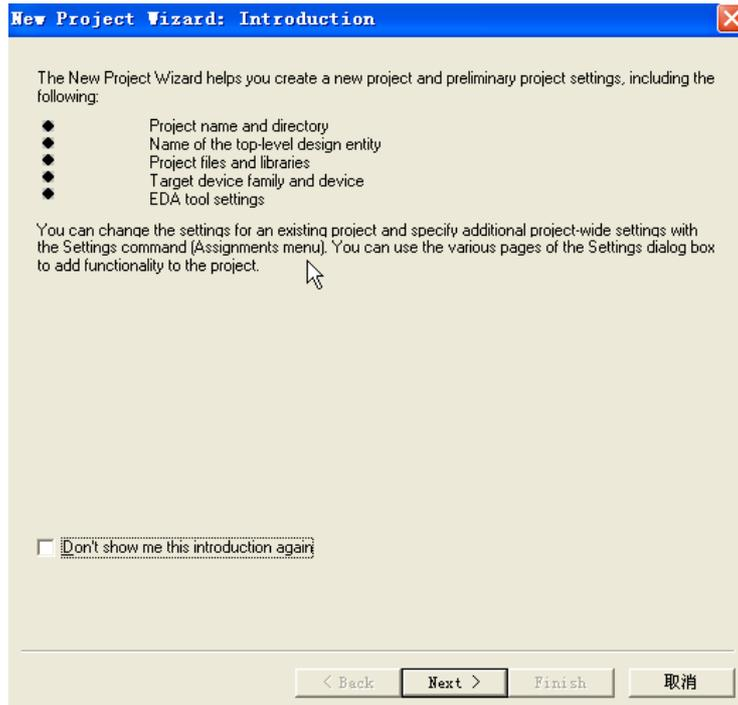
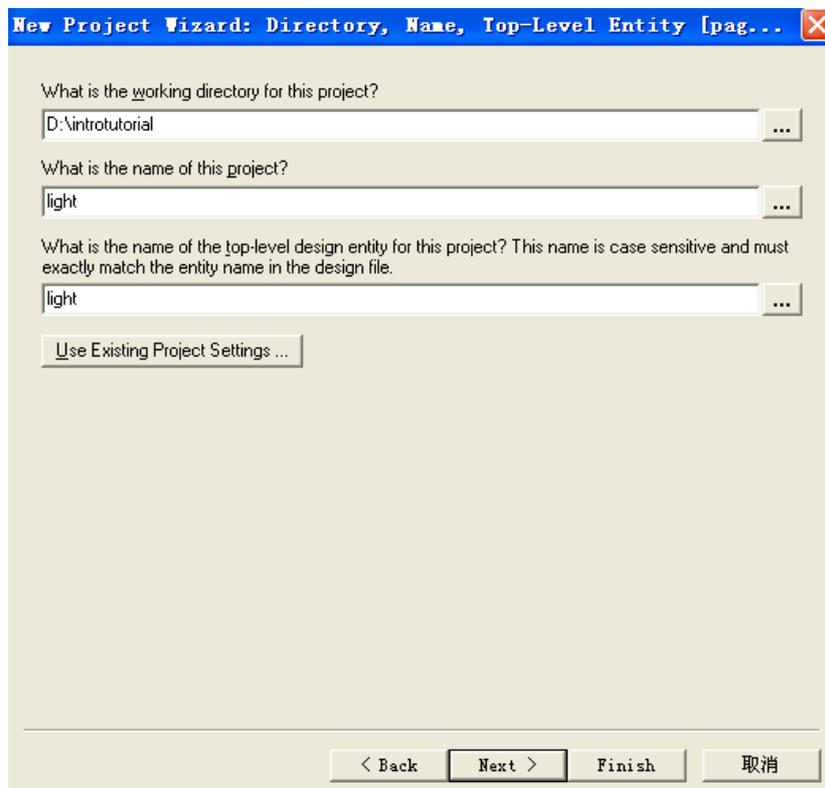
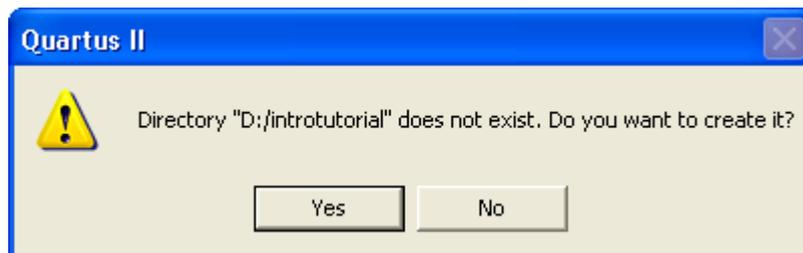
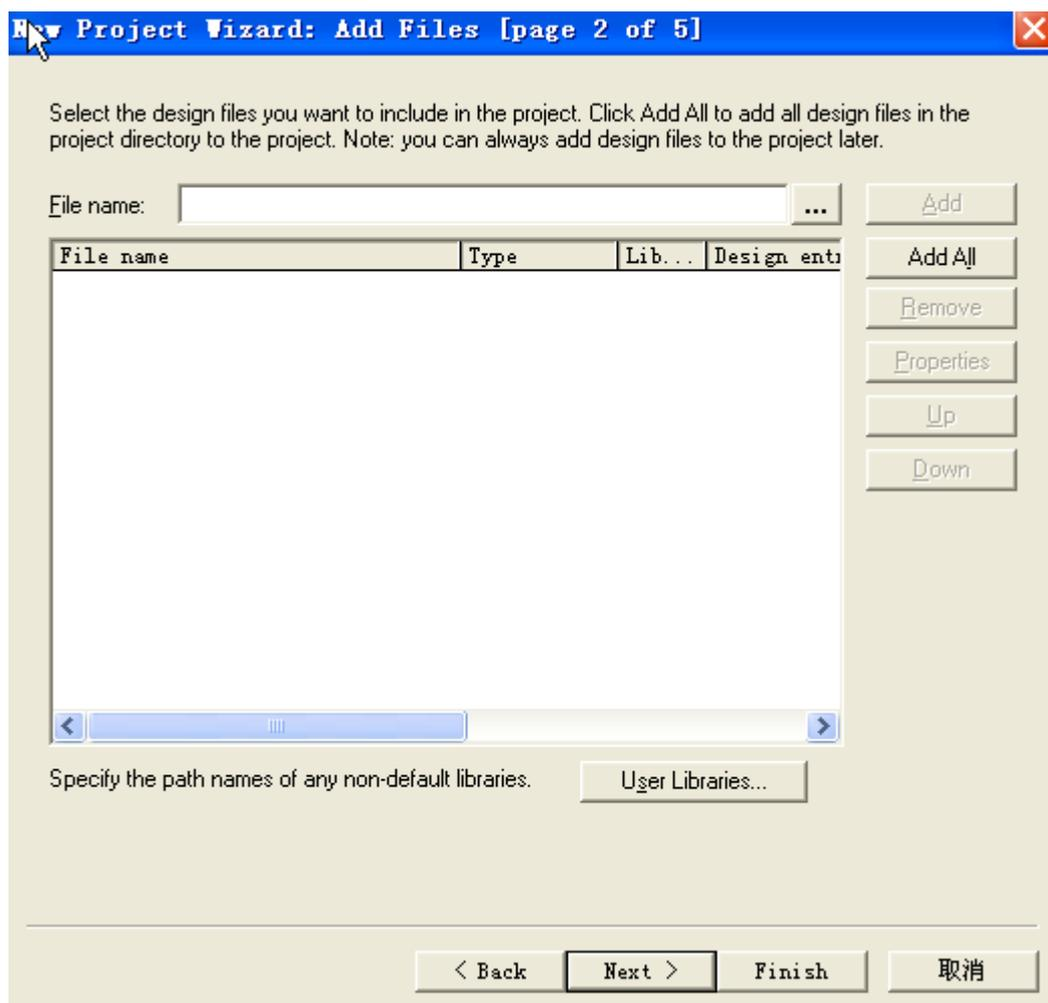

Figure 4.Tasks performed by the wizard.
Figure 5.Creation of a new project.
Figure 6. Quartus II software can create a new directory for the project.
Figure 7. The wizard can include user-specified design files.
1. Select **File > New Project Wizard** to reach the window in Figure 4, which indicates the capability of this wizard. You can skip this window in subsequent projects by checking the box Don't show me this introduction again. Press **Next** to get the window shown in Figure 5.
2. Set the working directory to be introtutorial; of course, you can use some other directory name of your choice if you prefer. The project must have a name, which is usually the same as the top-level design entity that will be included in the project. Choose light as the name for both the project and the top-level entity, as shown in Figure 5. Press **Next**. Since we have not yet created the directory introtutorial, Quartus II software displays the pop-up box in Figure 6 asking if it should create the desired directory. Click **Yes**, which leads to the window in Figure 7.
The Quartus II Graphic Editor can be used to specify a circuit in the form of a block diagram. Select **File > New** to get the window in Figure 13, choose Block Diagram/Schematic File, and click OK. This opens the Graphic Editor window. The first step is to specify a name for the file that will be created. Select **File > Save As** to open the pop-up box depicted in Figure 14. In the box labeled **Save as type** choose **Block Diagram/Schematic File (*.bdf)**. In the box labeled **File name** type light, to match the name given in Figure 5, which was specified when the project was created. Put a checkmark in the box **Add file to current project**. Click